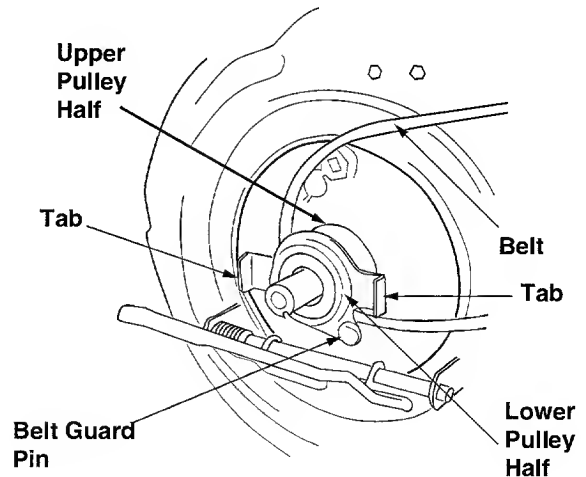

Figure 23
- Place belt between the two pulley halves on the crankshaft as shown in Figure 23. Make sure to route the belt inside the belt guard pin.
IMPORTANT: For proper assembly, it is essential to keep the belt guard pin and the two tabs on the lower pulley half in the position shown in Figure 23.